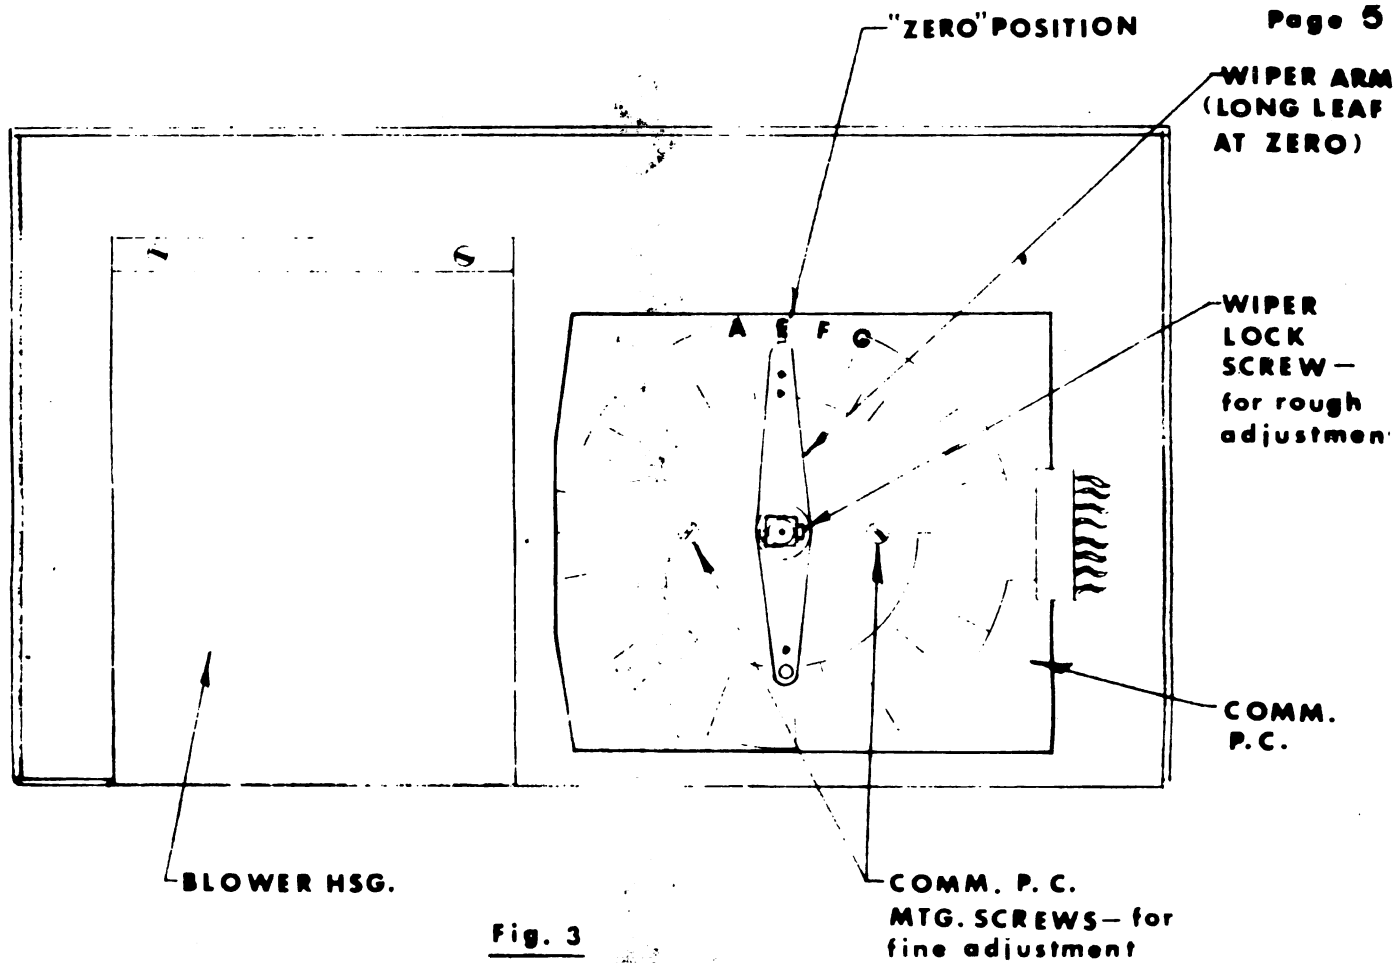

Fig. 3
4. Long leaf of wiper on commutator printed circuit disc should be in center of Segment "E" at zero position (see Figure 3).